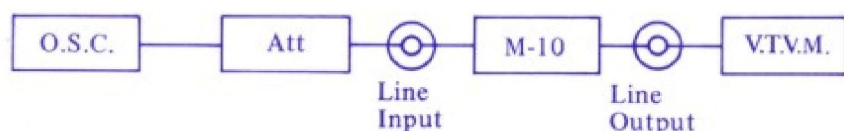

Fig. 7-2
- As shown in Fig. 7-2, connect an Audio Oscillator and Attenuator to the Line Input. Connect a High-sensitivity V.T.V.M. to the Line Output.